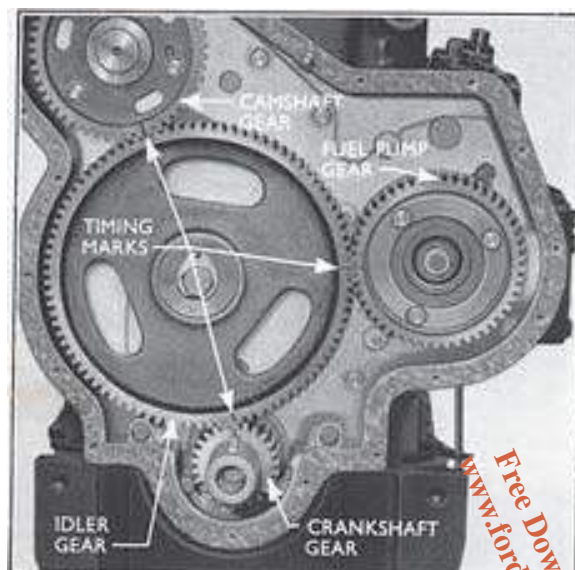

Fig. 8
The camshaft and the fuel pump are driven by the crankshaft gear via an idler gear. All the gears are suitably marked during production to facilitate re-timing, the marks being in line, when No. 1 piston is at top dead centre on its compression stroke (see Fig. 8).
1. Turn the crankshaft until all the timing marks on the gears are in line (see Fig. 8).
2. Fit the new idler gear on the spigot with the long tapered centre boss of the gear towards the cylinder block, and the timing marks aligned (see Fig. 8).
1. Turn the crankshaft until the timing marks on the gears line up as in Fig. 8.
7. Refit the idler gear, at the same time turning the camshaft so that the timing marks on all gears line up as shown in Fig. 8.
5. Check that all gear timing marks line up as shown in Fig. 8.
1. Turn the crankshaft until all the timing marks are in line (see Fig. 8).
4. Turn the crankshaft until the timing marks on the timing gears are in line (see Fig. 8).